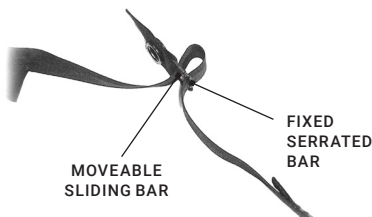

FIGURE 3-2. LACING THE SLIDING BAR BUCKLES
1. From inside of the buckle, thread the strap over the moveable sliding bar (Figure 3-2). Thread the strap back through the buckle; this time, thread it under the sliding bar and over the serrated part of the buckle.